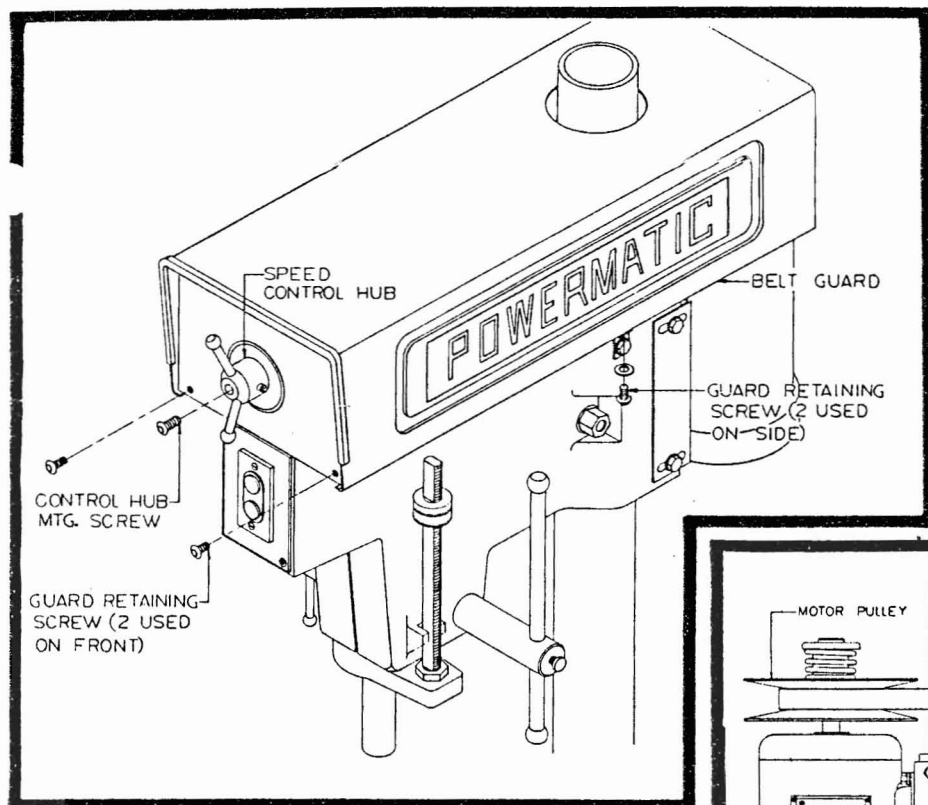

FIGURE 3
- a. Remove variable speed control hub by removing the mounting screw (Fig. 3), and pulling it off the shaft then remove guard retaining screws and lift guard from machine.